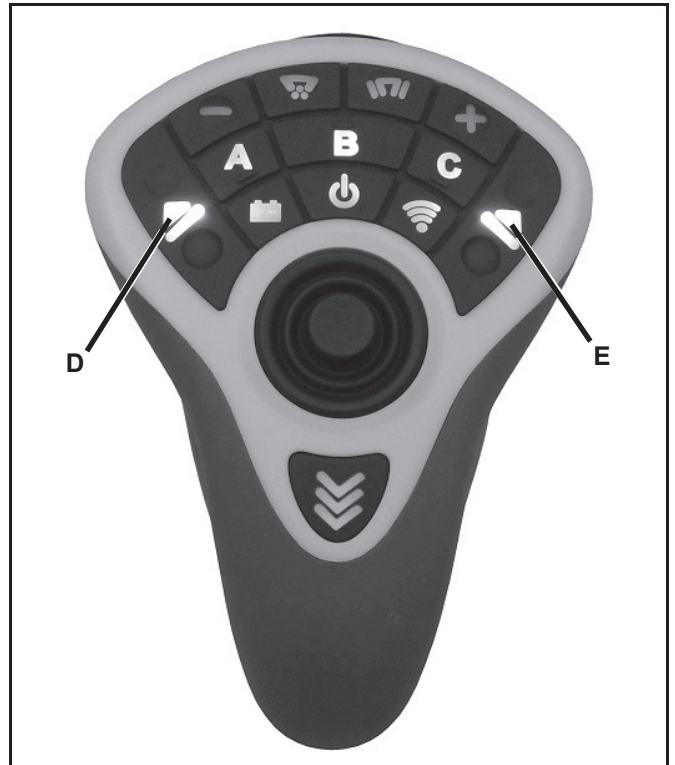

Figure 1-14
1. The button on the upper left side of the joystick (Figure 1-14, D) is the Driver's Side Wing button. Push the top button to perform a driver's side wing extend function. Push the bottom button to perform a driver's side wing retract function.
2. The button to the upper right side of the joystick (Figure 1-14, E) is the Passenger's Side Wing button. Push the top button to perform a passenger side wing extend function. Push the bottom button to perform a passenger side wing retract function.
1. The button on the top row, left of center (Figure 1-14, G) is the on/off button for the spinner motor. To start or stop the spinner press and release the button. When the motor is running, the light behind the button (salt light) will turn on. The light will blink slowly in speed step 1.